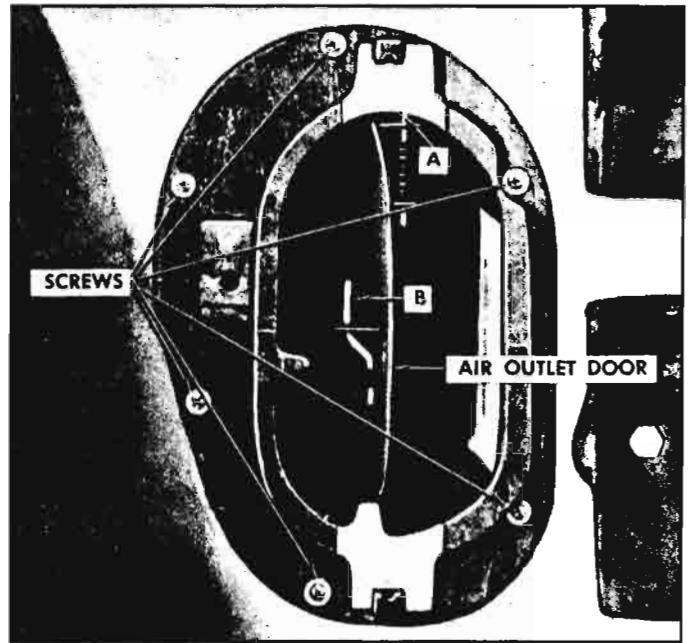

Fig. 10-25—Air Outlet and Door
2. Remove screws (fig. 10-25) securing outlet to cowl panel, disengage cable from pin "B" on door and remove outlet.
2. Remove end of control cable from pin indicated at "B" (fig. 10-25).